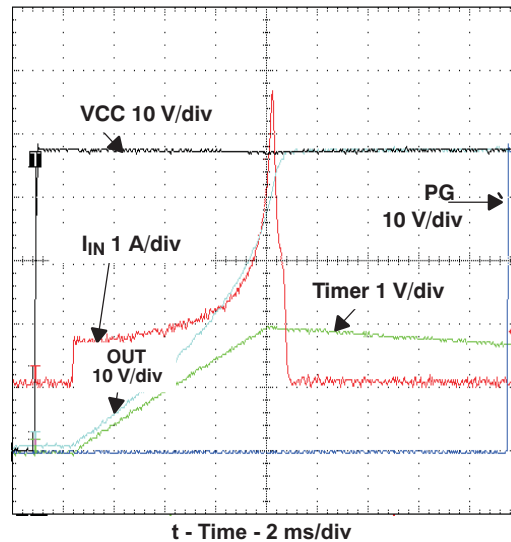
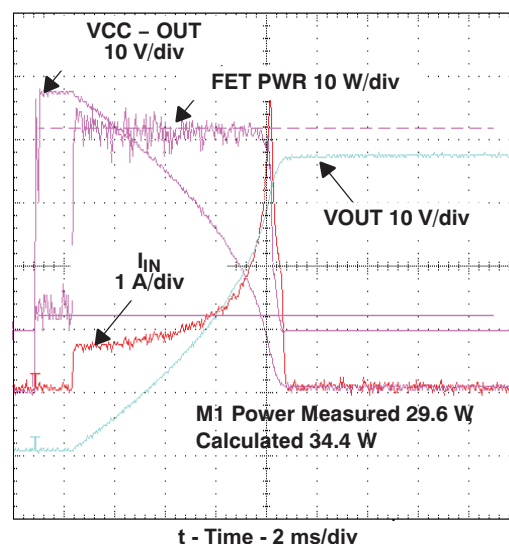
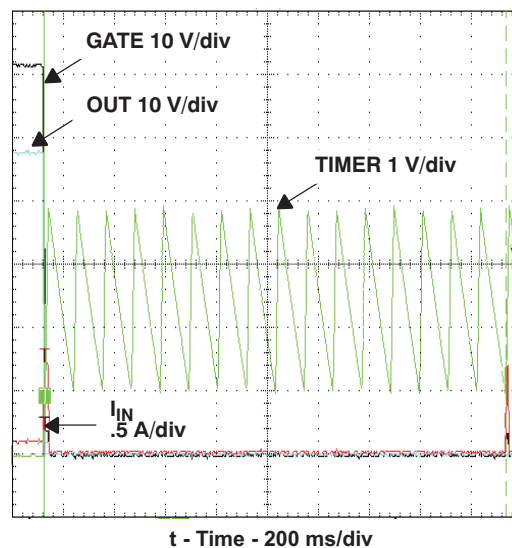

Figure 13. Basic Board Insertion
Figure 14. Computation of Q1 Stress During Startup
Figure 17. TPS2491 Restart Cycle Timing
A capacitor may be tied from PROG to ground to alter the natural constant power inrush current shape. If properly designed, the effect is to cause the leading step of current in Figure 13 to look like a ramp.
The typical application circuit, and oscilloscope plots of Figure 13 through Figure 17 demonstrate many of the functions described Device Functional Modes.
7.4.1 Board Plug-In (Figure 13)
7.4.2 TIMER and PG Operation (Figure 13)
7.4.3 Action of the Constant Power Engine (Figure 14)
The calculated power dissipated in Q1, $V_{DS} \times I_D$, is computed under the same startup conditions as Figure 13. The current of Q1, labeled I_{IN} , initially rises to the value that satisfies the constant power engine; in this case it is $34 \text{ W} \div 48 \text{ V} = 0.7 \text{ A}$. The 34 W value is programmed into the engine by setting the PROG voltage using Equation 2 given in the PROG. V_{DS} of Q1, which is calculated as $V_{(SENSE-OUT)}$, falls as C_O charges, thus allowing the Q1 drain current to increase. This is the result of the internal constant power engine adjusting the current limit reference to the GATE amplifier as C_O charges and V_{DS} falls. The calculated device power in Figure 14, labeled FET PWR, is seen to be flat-topped and constant within the limitations of circuit tolerance and acquisition noise. A fixed current limit is implemented by clamping the constant power engine's output to 50 mV when V_{DS} is low. This protection technique can be viewed as a specialized form of foldback limiting; the benefit over linear foldback is that it yields the maximum output current from a device over the full range of V_{DS} and still protects the device.
7.4.5 Automatic Restart (Figure 17)
A capacitor can be connected from the PROG pin to ground to reduce the initial current step seen in Figure 13 based on the Typical Application circuit. This method maintains a relatively fast turn-on time without the drawbacks of a gate-to-ground capacitor that include increased short circuit response time and less predictable gate clamping.